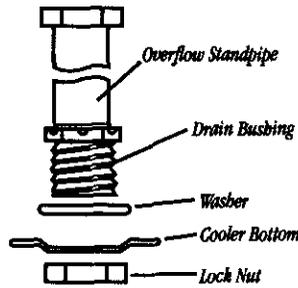

FIGURE 6
4. Connect (copper/pvc/garden hose) to drain bushing and drain in accordance to local codes (see Figure 6).